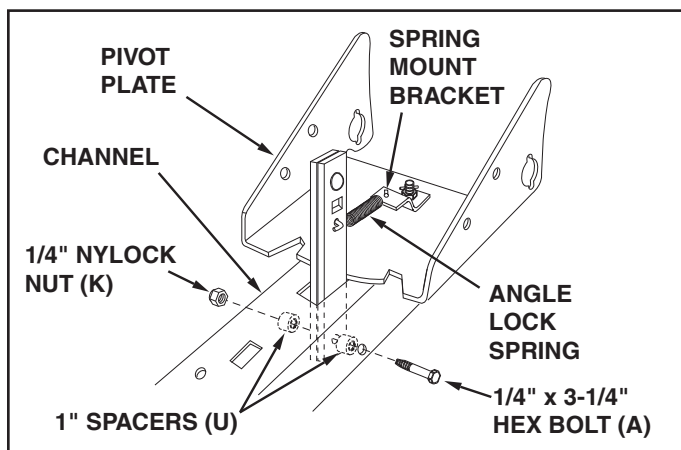

FIGURE 16 (Right Hand Side View)
STEP 2: (SEE FIGURE 16)
- Insert the angle lock bars down through the slot in the channel. Underneath the channel, place a 1" long spacer (U) on each side of the angle lock bars and insert a 1/4" x 3-1/4" bolt (A) through the channel, angle lock bars and the spacers. Secure the bolt with a 1/4" nylock nut (K). **Tighten** so that lock bars can pivot freely.